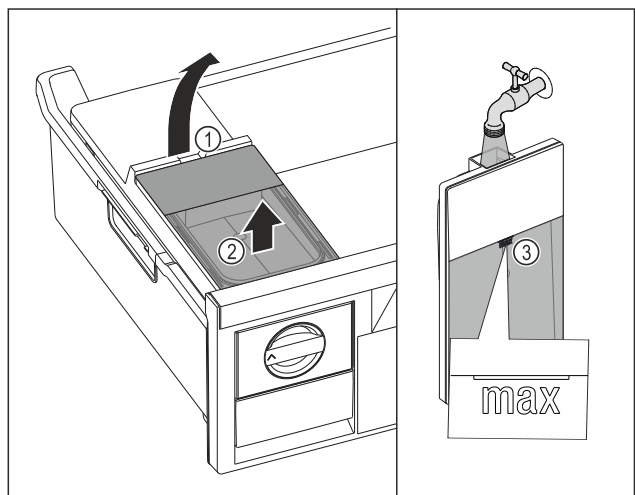

Fig. 121
- ▶ Lift the water tank at the recess Fig. 121 (1).
- ▶ Remove the water tank by lifting it upwards. Fig. 121 (2)
- ▶ Fill the water tank with drinking water up to the mark Fig. 121 (3).